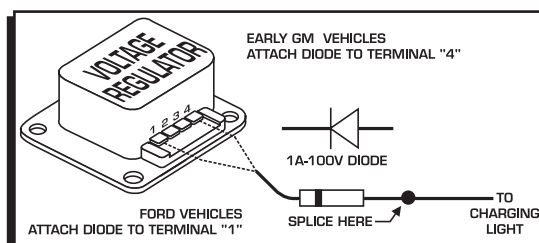

Figure 9 Installing the diode to a GM or Ford Vehicle.
**Early Ford and GM:** To solve the Run-On problem, a Diode is supplied with the MSD in the parts bag. By installing this Diode in-line of the wire that goes to the Charging indicator, the voltage is kept from entering the MSD. Figure 9 shows the proper installation for early Ford and GM vehicles.
**Note:** Diodes are used to allow voltage to flow only one way. Make sure the Diode is installed facing the proper direction (as shown in Figure 9).